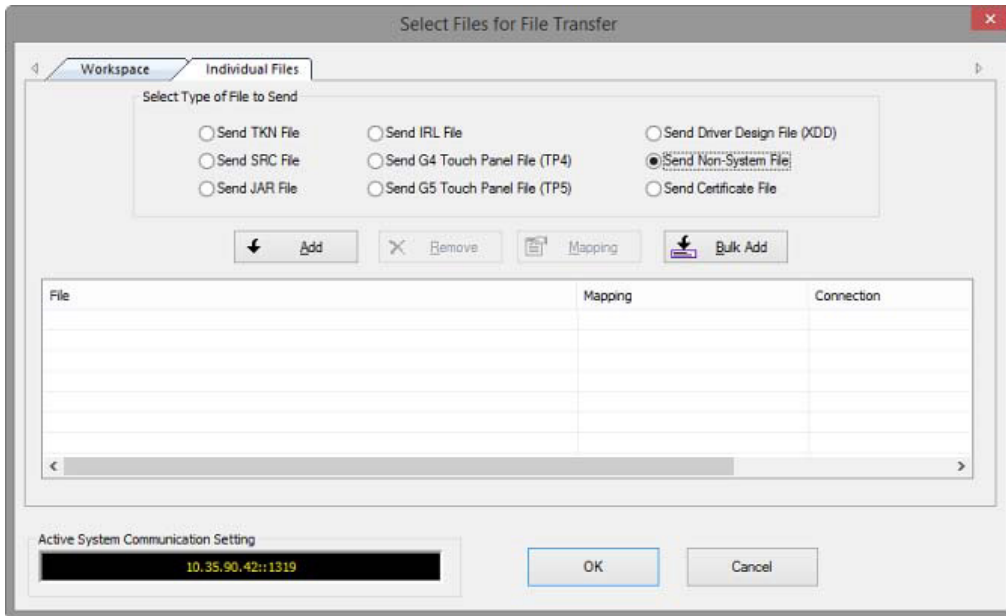

Fig. 165 NetLinX Studio 4 - Select Files for File Transfer dialog (Individual Files tab)
2. Click **Add** to open the *Select Files for File Transfer* dialog, open the *Individual Files* tab and select **Send Non-System File** (FIG. 165):